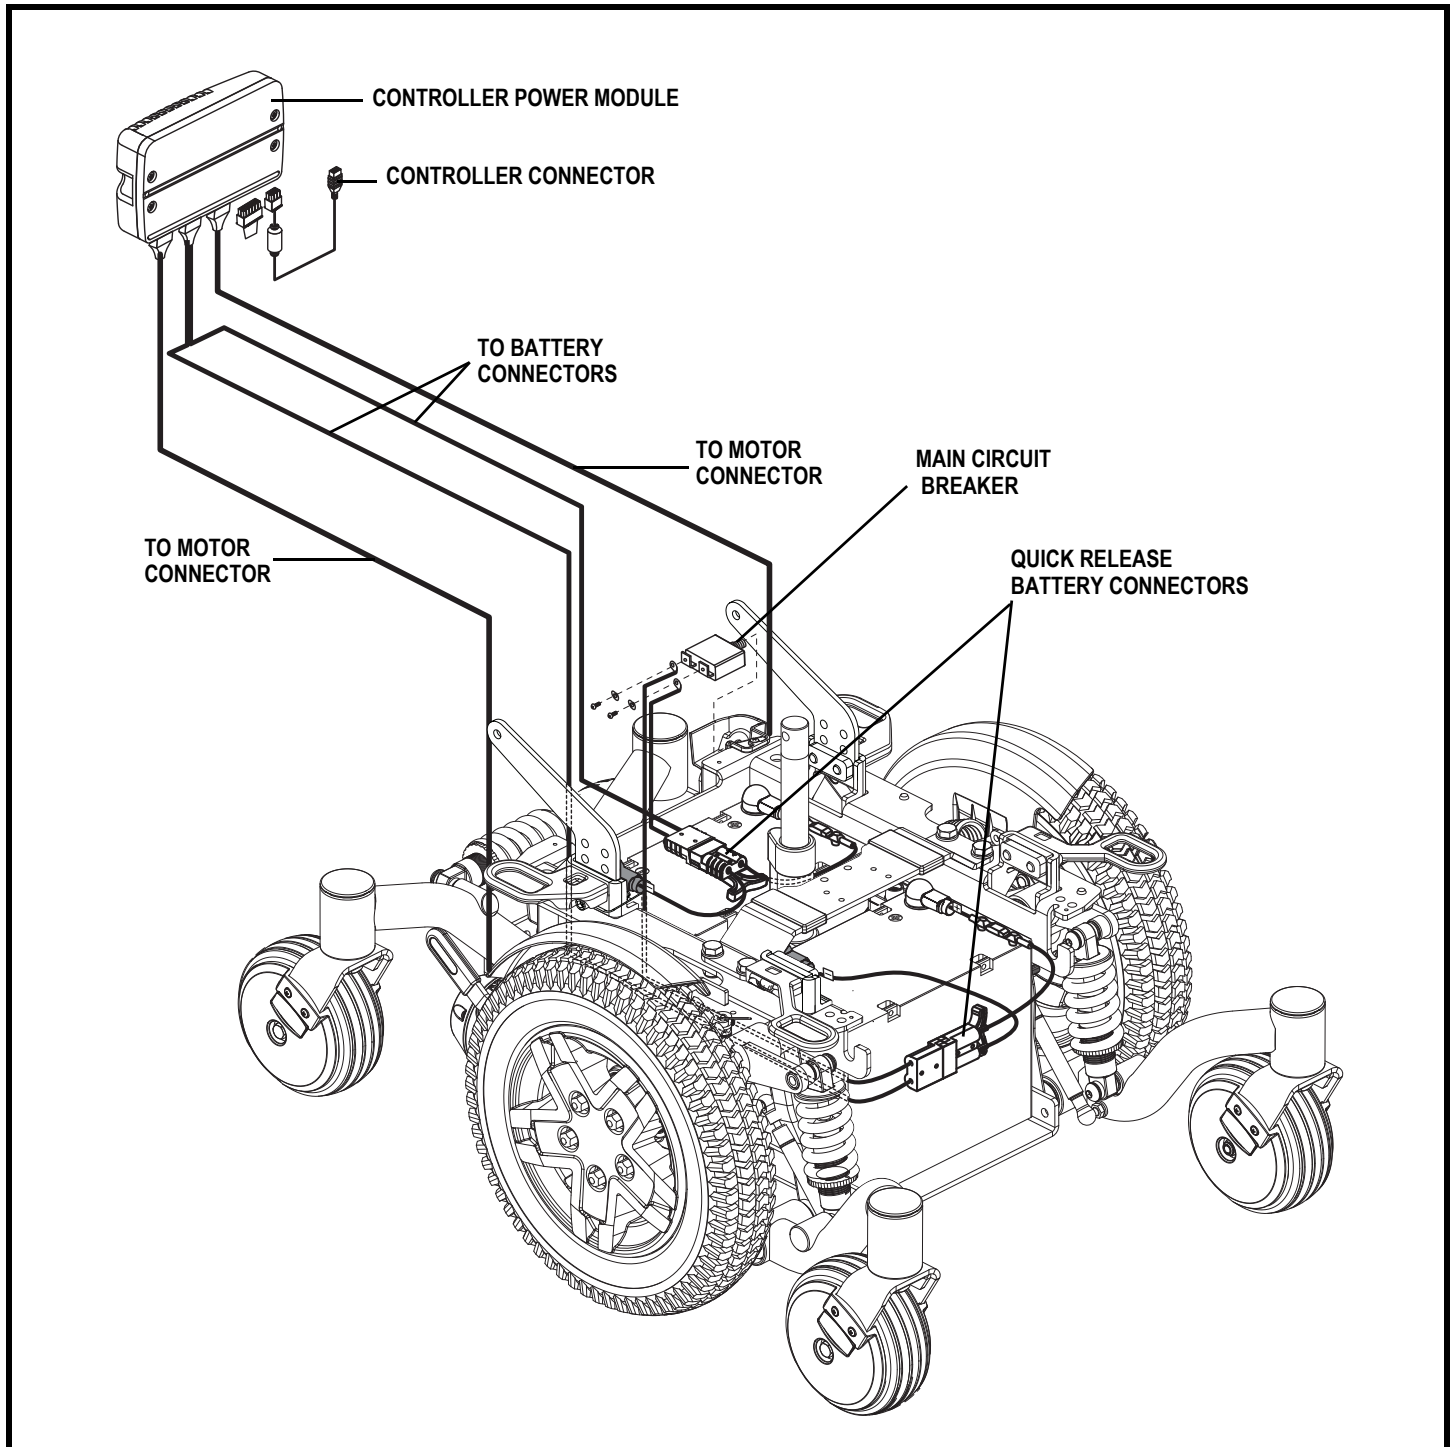

Figure 3. Quantum Q4 Electrical Components
The electrical components consist of the controller assembly, the batteries, and the motors. The batteries, motors, and controller power module (if equipped) are located on the power base assembly. The controller is located on the seat assembly. Connectivity between the controller and the motors, batteries, and the battery charger is provided by one or more wiring harnesses. See figure 3.
4. Plug the controller connector into the rear of the power base. See figure 3.